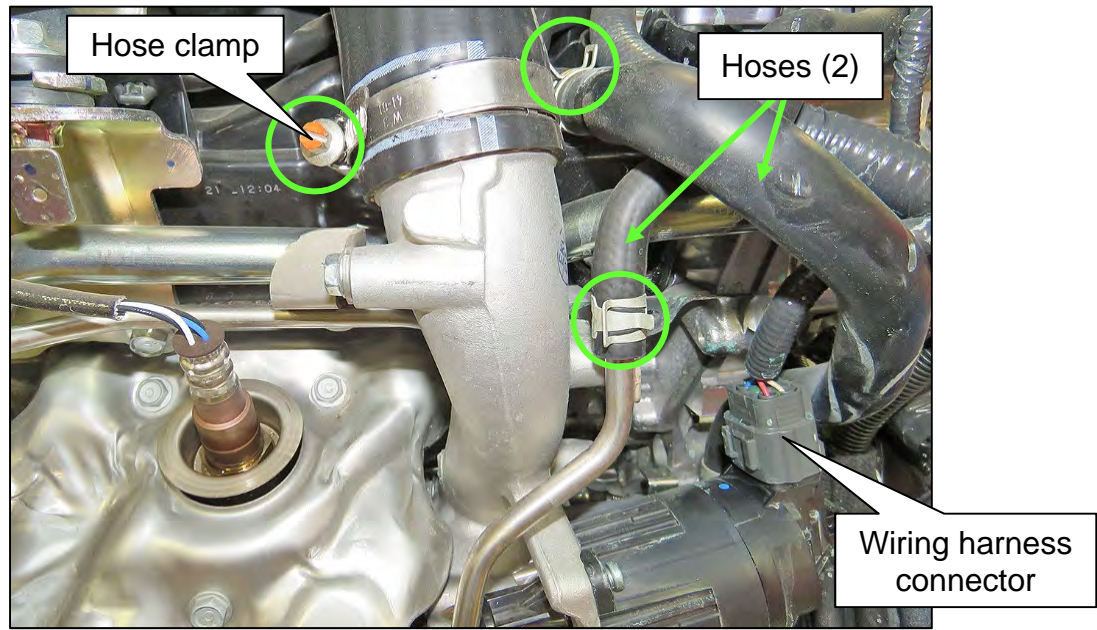

Figure 44
63. Loosen the Air Inlet Hose clamp shown in Figure 44. This hose will be detached in step 80 on page 24.
64. Release the spring clamps and disconnect the two (2) associated hoses, shown in Figure 44.
65. Disconnect the wiring harness connector shown in Figure 44.